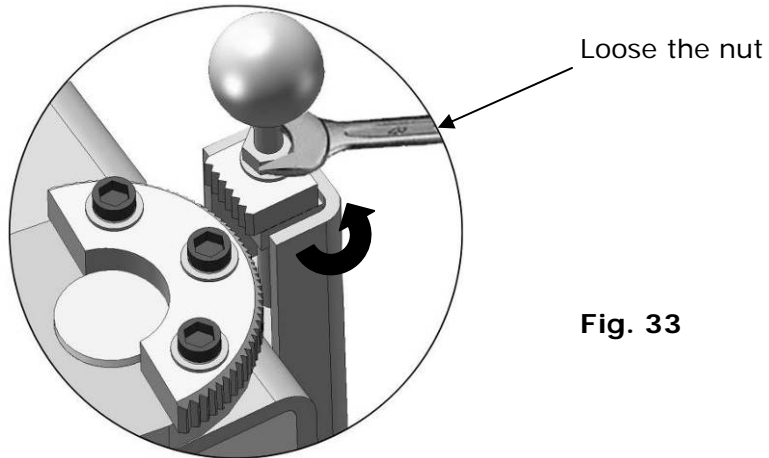

Fig. 33
2. Lower the carriages down to the lowest position, then use the 17mm Wrench to loosen the nut (See Fig. 33)